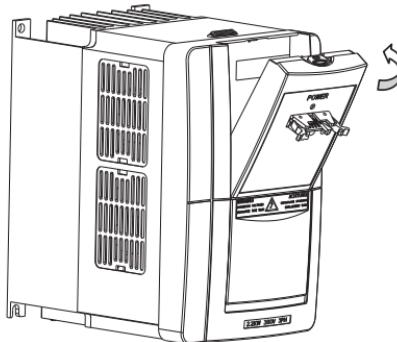

Fig. 3-9 Mounting Demonstration of the operator panel and connecting wire of the inverter Model A
**Step 2.** Plug the connection wire on the interface board provided in the optional spare parts .install at the keypad's position . (as shown in Figure 3-9)